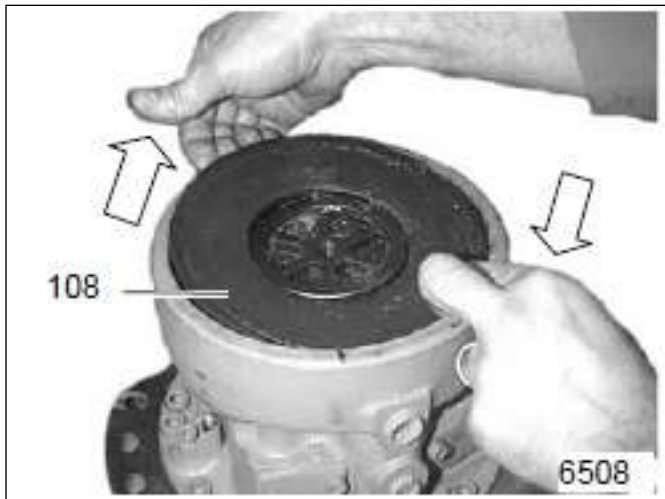

Figure 3-32: Remove Spring Washer
9. Extract the spring washer, item 108. See Figure 3-32.